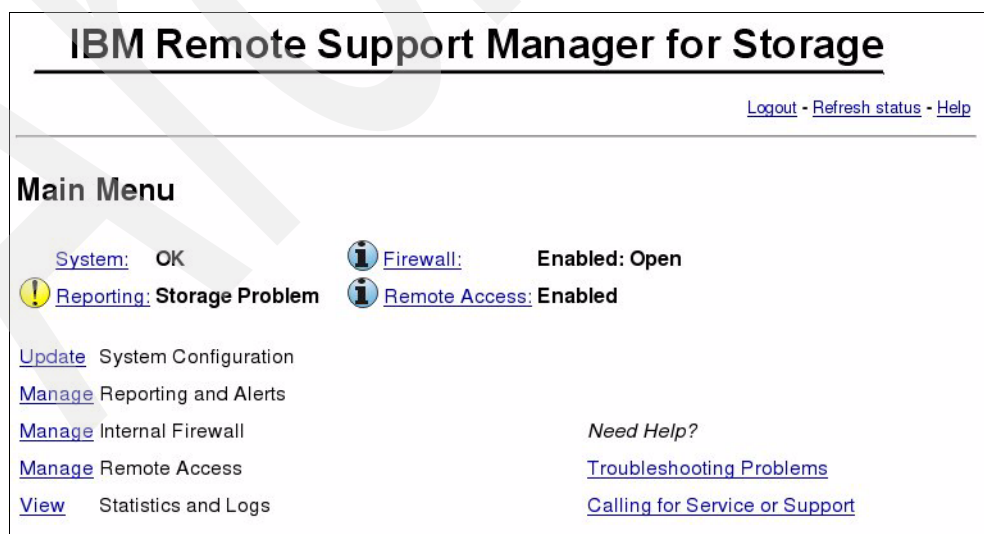

Figure 15-28 Main menu with storage problems
1. When RSM receives SNMP alerts from one of the defined storage subsystems, an attention mark (!) is shown next to the reporting link, as shown in Figure 15-28. Click **Reporting** to see the alerts.